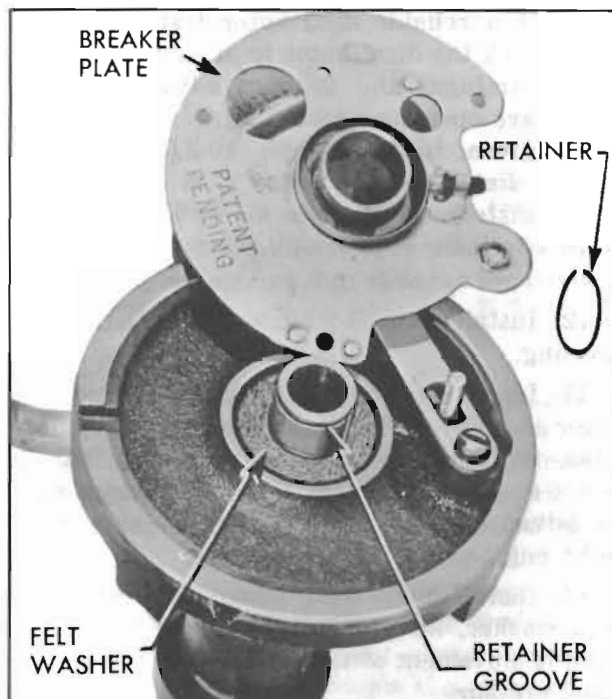

Figure 10-51—Installing Breaker Plate and Retainer
2. Install felt washer over upper bushing and apply a few drops of light oil. Then place breaker plate over upper bushing and vacuum advance link. Install retainer on upper bushing. See figure 10-51.